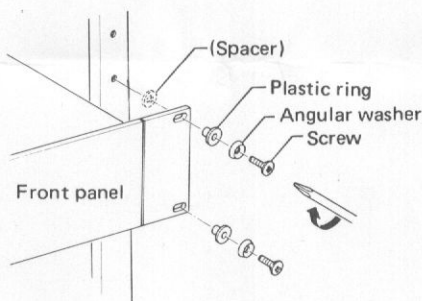

Fig. 2
1. Remove the rubber feet (4) from the stereo component, using the Phillips screwdriver (this is not necessary if you leave a gap between the components).
2. As shown in Fig. 2, insert the stereo component and align with the EIA standard mounting holes (mounting pitch: 2U).
The JA-R104 adaptors are 3mm thick. When aligning them with other Pioneer stereo components with a thickness of 5mm, slide the accessory spacers behind the adaptors and then attach (Fig. 2).